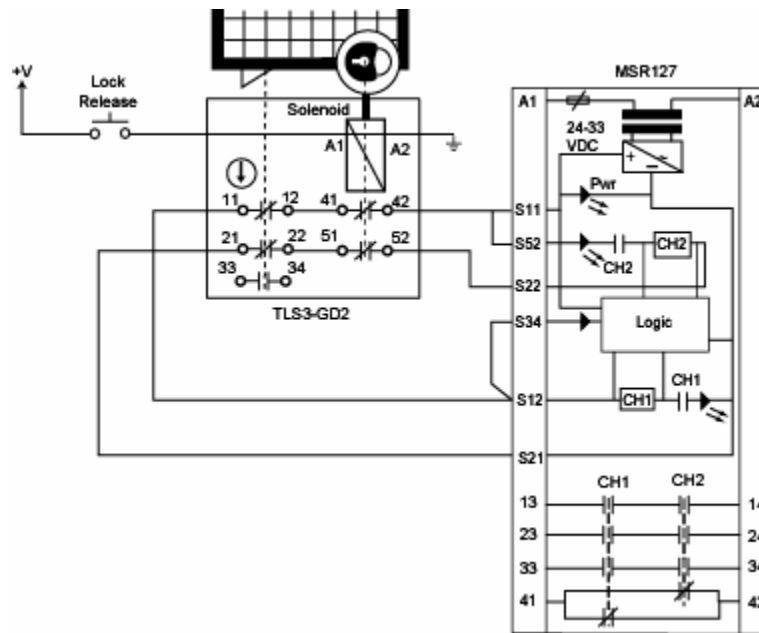

Figure 14. One TLS3-GD2
- h. The input circuit arrangement shown in Figures 14 meets the requirements of EN954-1 Category 4.